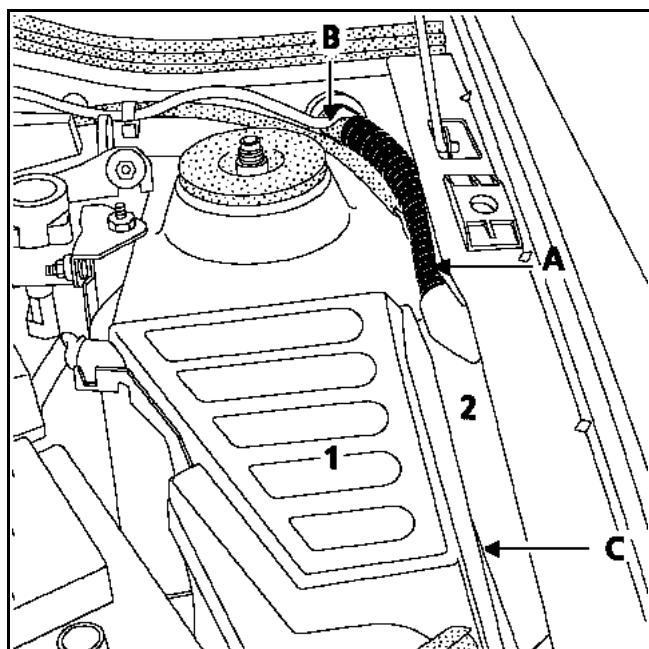

Fig. 1
- 2 Fit a 23 mm diameter grooved sheath, 160 mm in length (A) (Fig. 1). This sheath should be fitted tight against the fuel cut-off switch wiring (B) (Fig. 1) with the slot facing downwards. Surround the sheath with adhesive tape along its length, starting from the fuel cut-off switch wiring.